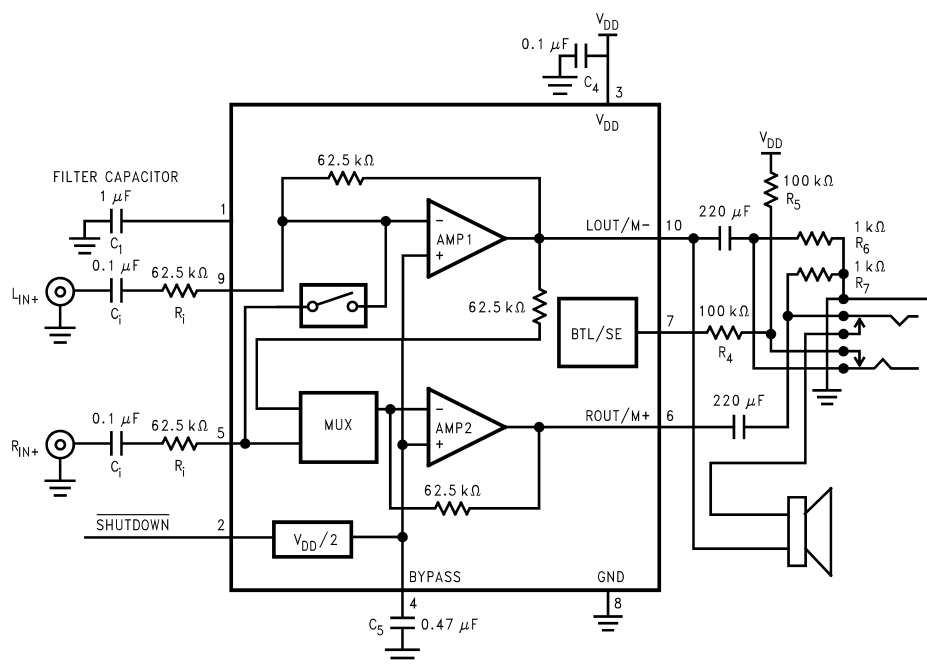

Figure 3. Typical Audio Amplifier Application Circuit
As shown in Figure 3, the LM4914 consists of one input multiplexer (MUX) and two power amplifiers designed to drive loads that have a minimum impedance of 4Ω. In mono BTL mode, AMP1 and AMP2 drive a speaker connected between their outputs. In stereo SE mode, AMP1 and AMP2 each drive a SE load such as stereo headphones.
Amplifying the lowest audio frequencies requires high value input coupling capacitors (C_1 and C_2 in Figure 3). A high value capacitor can be expensive and may compromise space efficiency in portable designs. In many cases, however, the speakers used in portable systems, whether internal or external, have little ability to reproduce signals below 150Hz. Applications using speakers with this limited frequency response reap little improvement by using large input capacitor.
As shown in Figure 3, the input resistors (R_1 and R_2) and the input capacitors (C_1 and C_2) produce a high pass filter cutoff frequency that is found using Equation (7).
As an example, when using a speaker with a low frequency limit of 150Hz, and input resistances (R_2 and R_3) of 16.8k Ω , using Equation (7), input capacitances (C_1 and C_2) are 0.063 μ F. The 0.1 μ F capacitors (C_1 and C_2) shown in Figure 3 allow the LM4914 to drive high efficiency, full range speaker whose response extends below 30Hz.